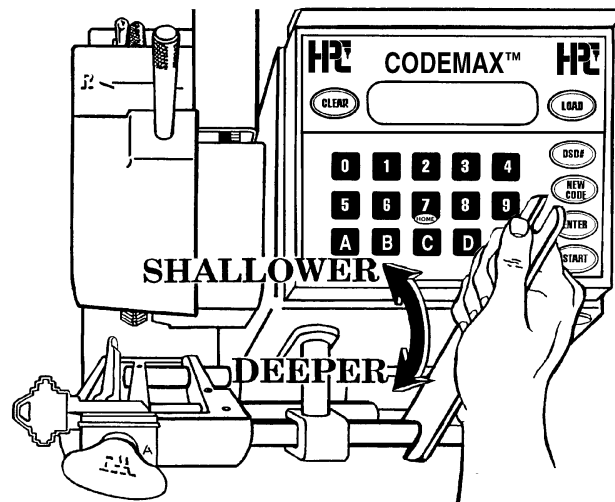

Fig. 1
The need to readjust depth is caused by cutter wear or cutter replacement. It is easily accomplished by rotating the eccentric shaft (CM-1041) with the 3/8 inch end of Wrench-1, turning towards you to cut deeper, and away from you to cut shallower. The 180 degree rotation allows depth adjustments of plus or minus .015 inch. Since the eccentric shaft is made of drill rod, there is no need to loosen the two binding screws prior to rotating it (see Fig. 1).
- 5) After the key has been cut, use a micrometer or caliper to measure the depth cut and compare it against the Depth and Spacing specifications chosen in step 3 above. If the reading of the micrometer is the same as the Depth and Spacing specifications, the machine is cutting correctly. If the cuts are higher or lower, adjust the Eccentric Shaft as explained in the beginning of this section (see Fig. 1). When checking the calibration on a key machine, it is very important to use the proper tools in order to maintain the accuracy of the machine. A key micrometer or caliper is a small investment and is highly recommended to acquire the greatest accuracy.